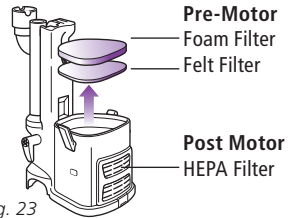

Fig. 23
- 2 Pull the 2 filters out from the top of the motor base. **(Fig. 23)**